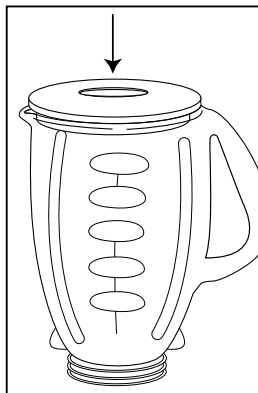

FIGURE 6
- Do not remove the lid while in use. Remove filler cap to add smaller ingredients. *(Figure 6)*